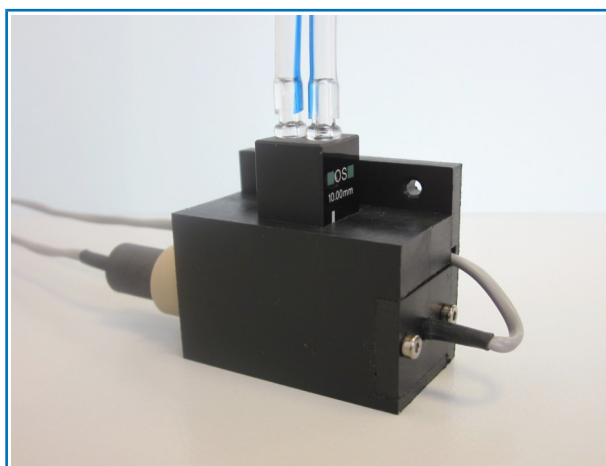

Figure 3: Combination of mounting bracket with flow cell
- (1) Especially when you replace the tubes it can happen that air is getting into them. Please make sure that air is not accumulating at the transmission window of the flow cell where it would distort the measurement. The elimination of air is easier if you turn the flow cell in an upright position as shown in figure 3. If an air bubble is fixed to the transmission window (i.e. in a stream burble), you can try to resolve and remove it by snapping with your finger and actively moving the tubes.*
- (2) Please take care to keep the transmission window in a clean state.*
- (3) If the flow cell is wetted with methylene blue or other dyes you should recirculate it with distilled water in order to avoid a dry coating.*